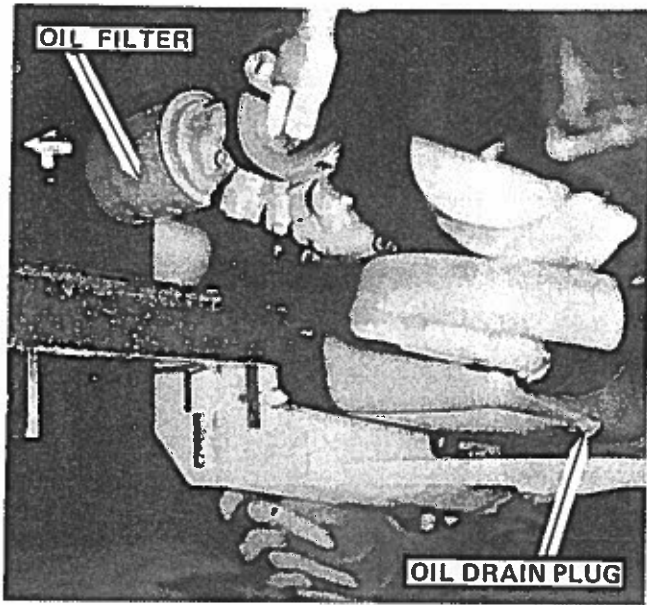

FIGURE 39
4. Remove the oil drain plug, see FIGURE 39, and drain the oil.